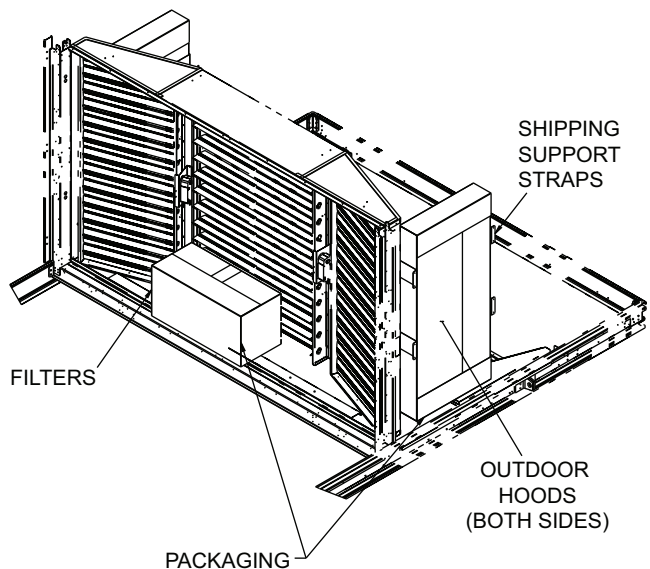

Fig. 23 — Packaging Locations
1. Remove the box from the unit (see Fig. 23).
2. Remove filters located between return/exhaust fan and economizer dampers, these are packaged separately from hoods for shipping (see Fig. 23). Screws, other hardware and seal strips are packaged with the outdoor hoods.